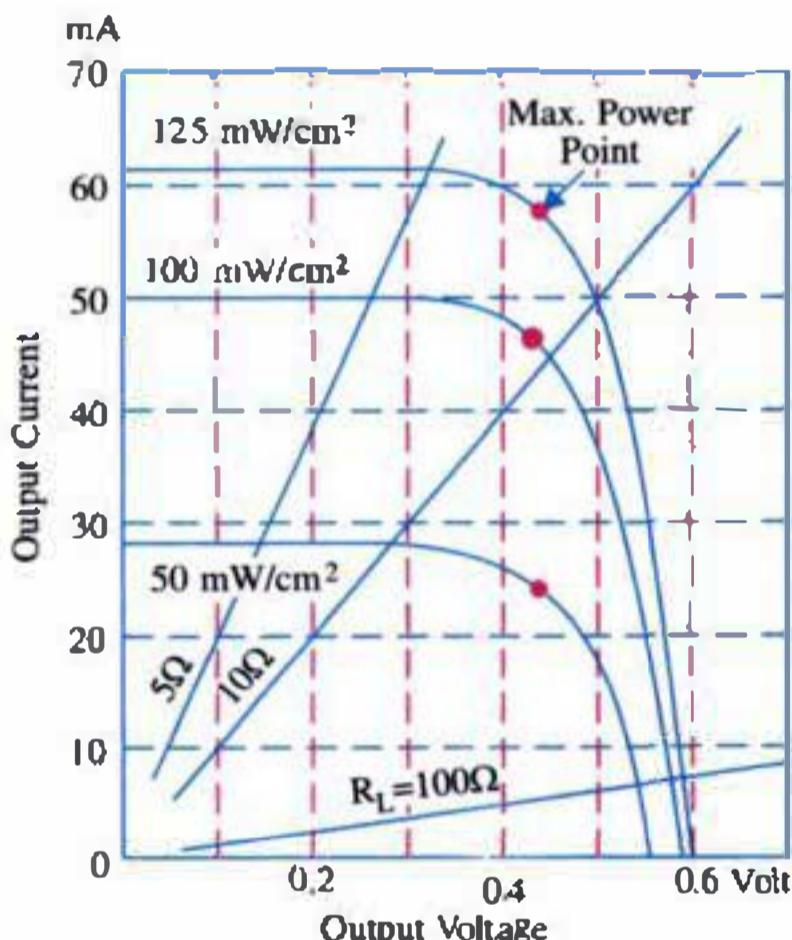

Fig. 6.9
Typical V-I characteristics of a solar cell corresponding to different levels of illumination are shown in Fig. 6.9.
Consider the characteristic for incident illumination of 100 mW/cm2 in Fig. 6.9. If we short circuit the cell, current is maximum and equals 50 mA. Since output voltage is zero, power output is also zero. On open-circuit, current is zero though output voltage is nearly 0.57 V. Hence, power output is again zero. For obtaining maximum power output, the cell must be operated at the 'knee' of the curve.
**Example 6.1.** An Earth satellite has 12 V nickel-cadmium batteries which supply a continuous current of 0.5 A throughout the day. Solar cells having V-I characteristics of Fig. 6.9 are employed to keep the batteries fully charged. If illumination from the Sun for 12 hours in every 24 hours is 125 mW/cm2, determine the approximate number of solar cells required.
As seen from the V-I characteristics of Fig. 6.9, each cell supplies 56 mA at 0.45 V. If we allow a drop of 1.5 V for series resistor etc., we need  $(12 + 1.5) = 13.5$  V from each series group.